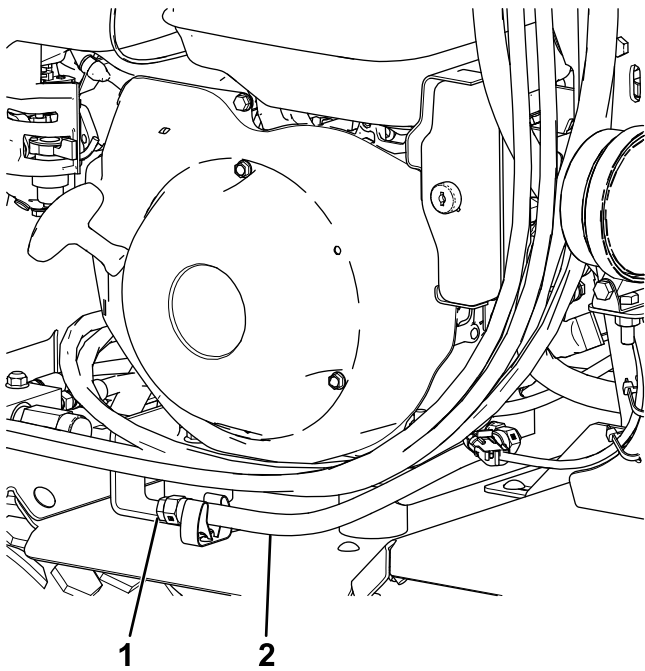

Figure 35
3. Aim the oil-drain hose over the side of the machine and place a receptacle under the end (Figure 35).
4. Remove the drain plug at the end of the hose (Figure 35).
5. When the oil has drained completely, install the drain plug (Figure 35).